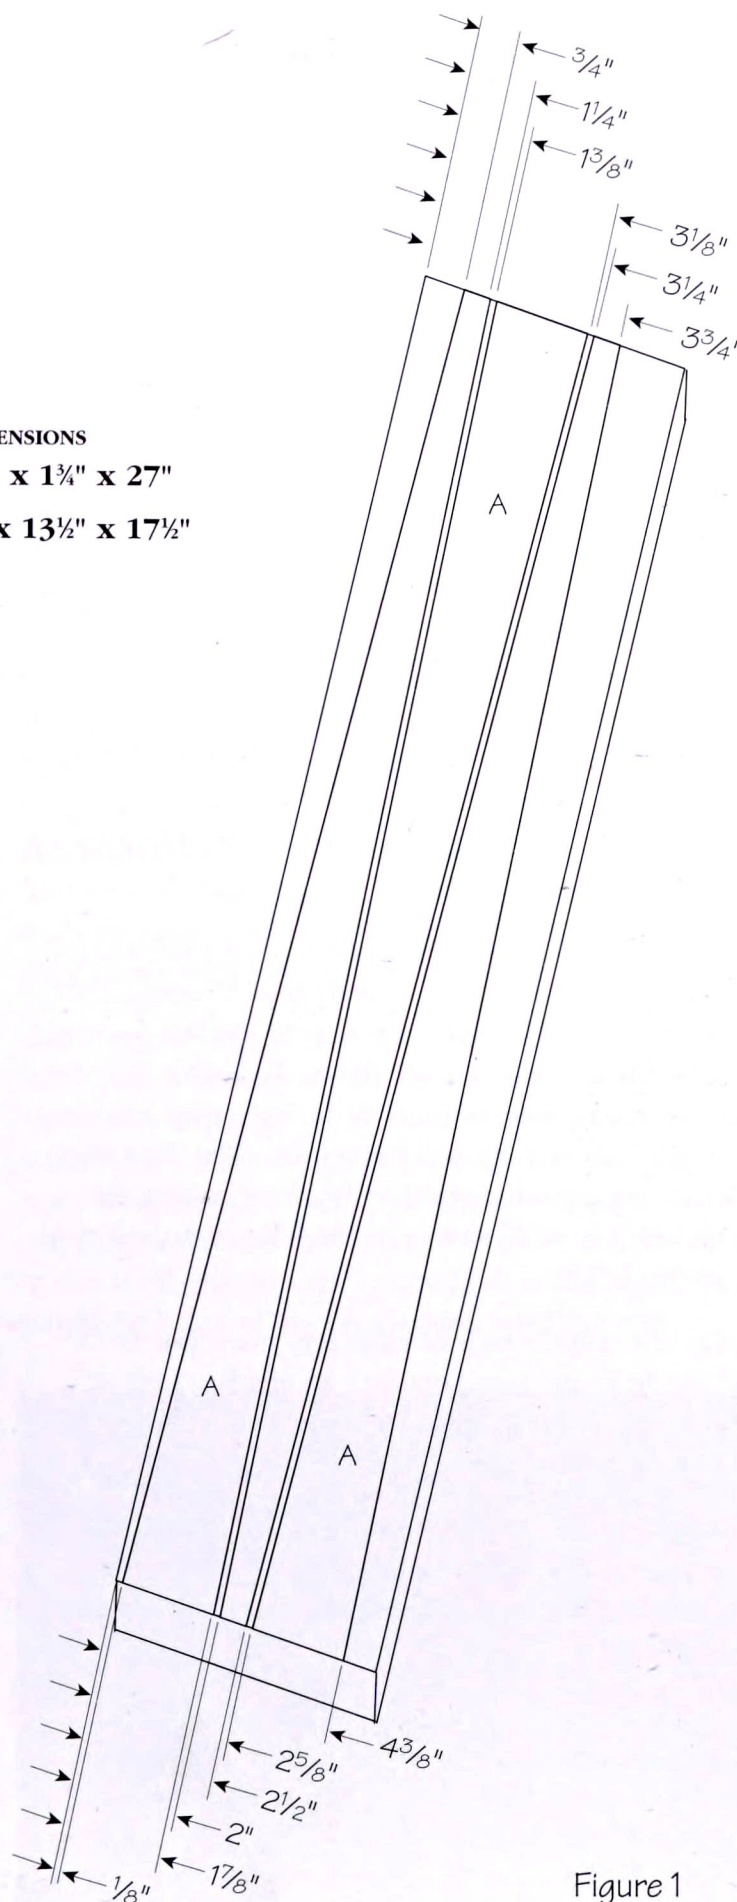

Figure 1
3. At one end, mark points $\frac{1}{8}"$, $1\frac{7}{8}"$, 2", $2\frac{1}{2}"$, $2\frac{5}{8}"$, and $4\frac{3}{8}"$ from the jointed edge. At the other end of the same face, mark points $\frac{3}{4}"$, $1\frac{1}{4}"$, $1\frac{3}{8}"$, $3\frac{1}{8}"$, $3\frac{3}{4}"$, and $3\frac{3}{4}"$ from the jointed edge. With a long straightedge and a sharp pencil, connect the first marks you made at each end, then the second marks, and so on (see figure 1). You now have outlines for three legs tapered from $1\frac{3}{4}"$ at the top to $\frac{1}{2}"$ at the bottom. If you have an adjustable tapering jig for your table saw (and a sharp rip blade), you might want to use it to saw these legs. This small job doesn't justify making special jigs.